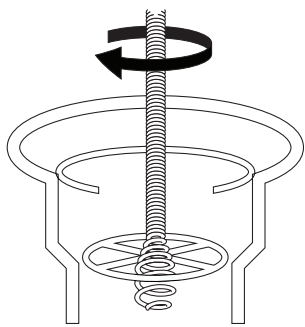

Figure 2
- Thread through crosshairs (*Figure 2*).